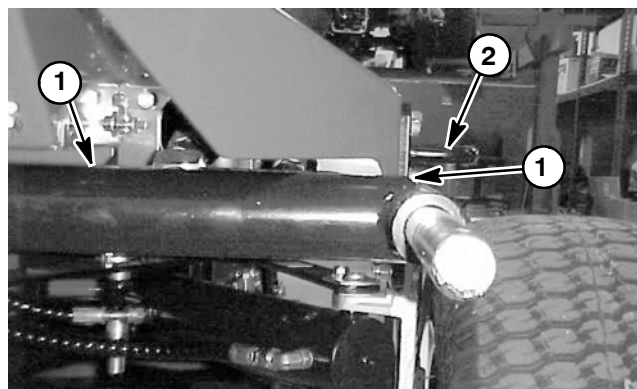

Figure 4
2. Make sure clearance between each lift arm and floor plate bracket is from 0.18 to 0.32 inch (4.6 to 8.1 mm) (Fig. 4).